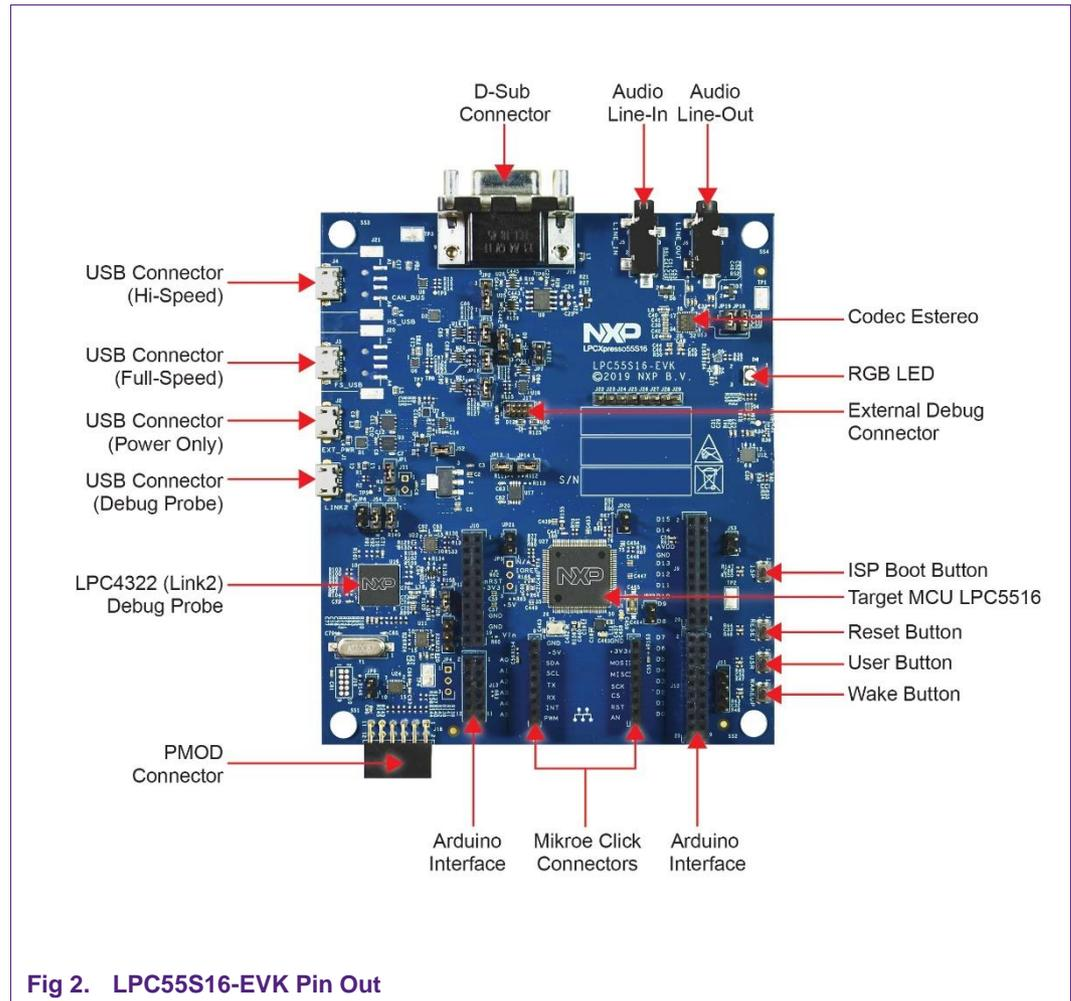

Fig 2. LPC55S16-EVK Pin Out
- Fig 2. LPC55S16-EVK Pin Out4